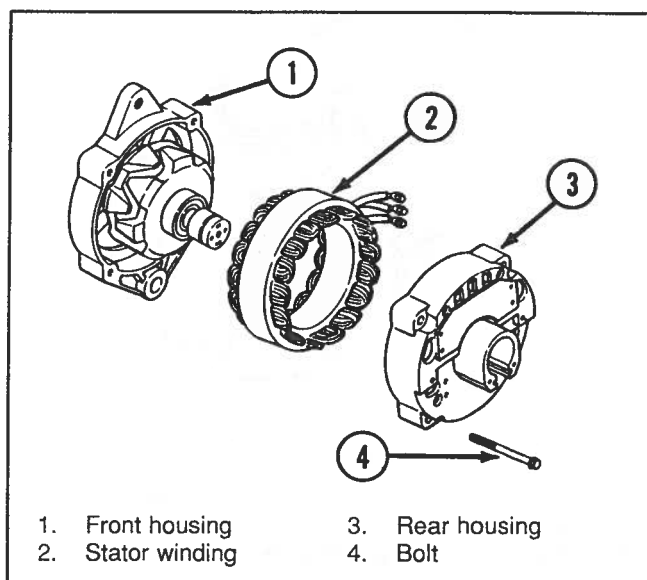

Figure 6-87. Assembling Front Housing, Stator And Rear Housing
7. Assemble the front and rear housings as follows (Figure 6-87):